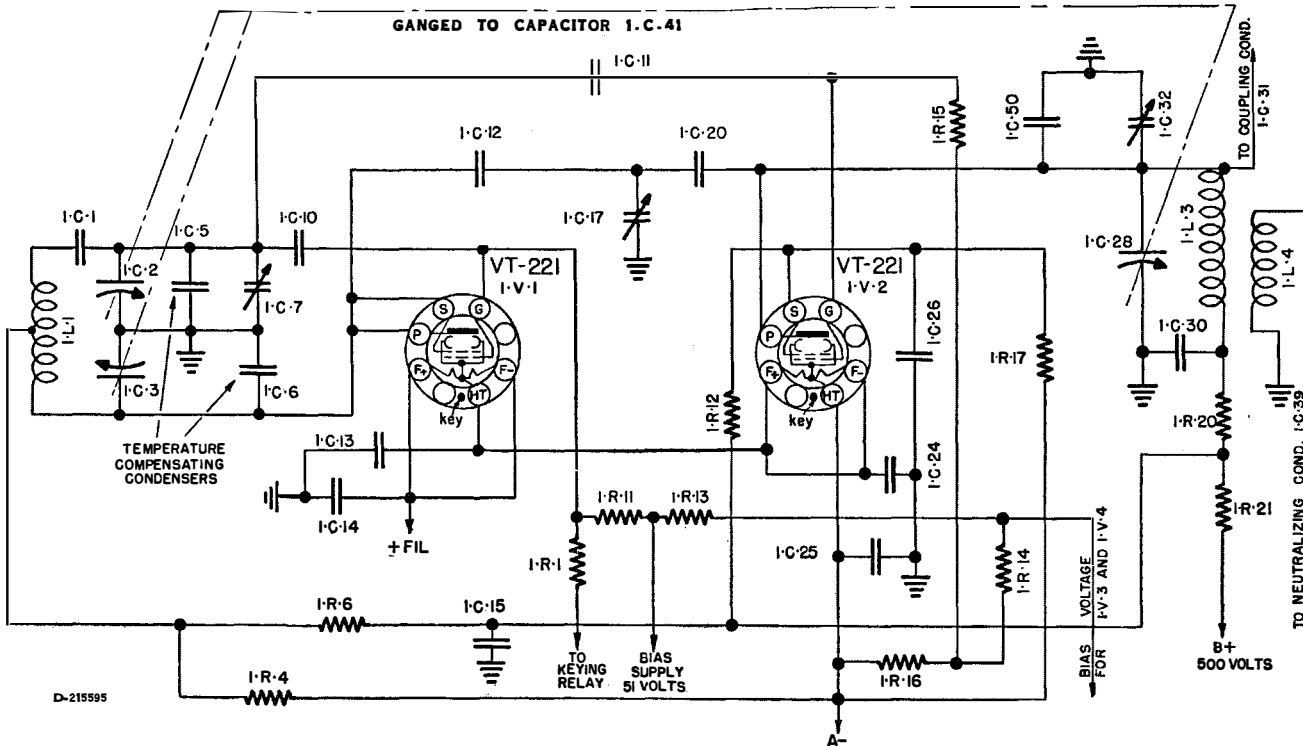

FIG. 18. MASTER OSCILLATOR - INTERMEDIATE POWER AMPLIFIER CIRCUIT
*d. Master Oscillator-Intermediate Power Amplifier Circuit:* (FIG. 18)
- (1) The master oscillator uses the Colpitts circuit. Oscillator Tube VT-221 (1-V-1), is connected as a triode, with the screen and plate joined. The tuning is accomplished in the oscillator circuit by capacitors (1-C-2 and 1-C-3), connected in series forming a split or balanced circuit to ground. Capacitors (1-C-5 and 1-C-6) are of the negative co-efficient type, to prevent drifting with temperature in the oscillator circuit. Capacitor (1-C-1) is used to permit tracking of the oscillator to other stages of the transmitter. The mid-tap of coil (1-L-1) is connected to the positive plate supply.
- (2) For calibration of the master oscillator, trimmer capacitor (1-C-7) is used. The tube filament is by-passed by capacitors (1-C-13 and 1-C-14).
- (3) The neutralizing network is comprised of capacitors (1-C-12, 1-C-20 and 1-C-17). Neutralizing is accomplished by supplying a voltage from Coil (1-L-1) to the plate circuit of tube 1-V-2, which is opposite the phase to the voltage driving the grid of tube 1-V-2. The magnitude of this neutralizing voltage is controlled by capacitor (1-C-17).